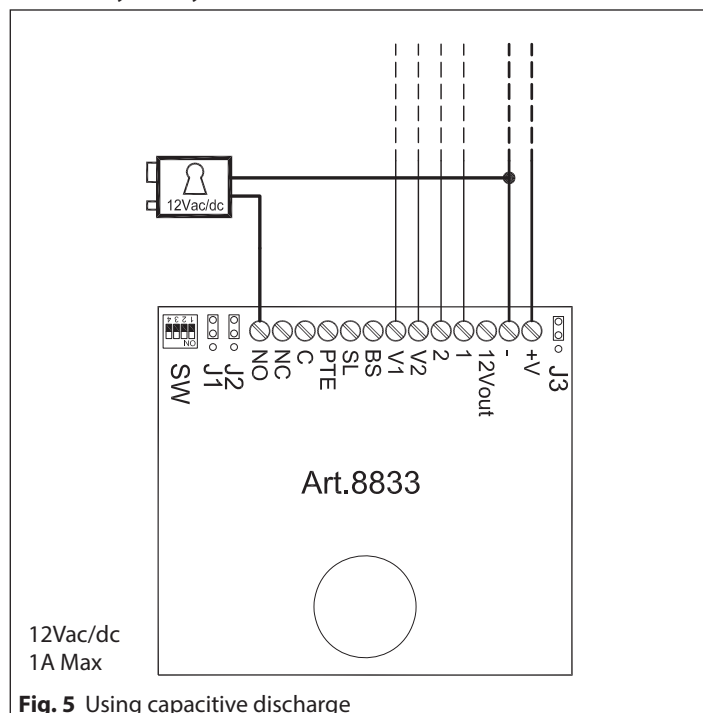

Fig. 5 Using capacitive discharge
5. Remove the fixing screws **(H)** (**Fig. 5**) and remove the plastic cover **(E)** (**Fig. 5**) of the module support;